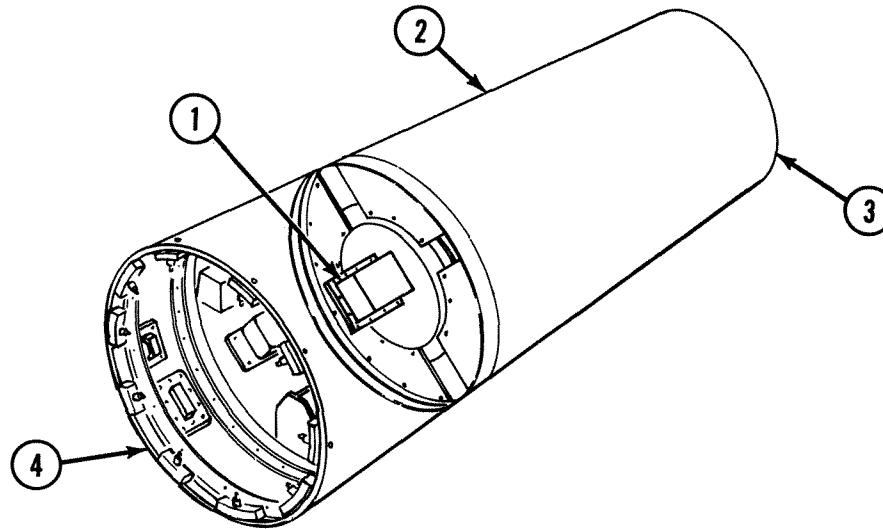

Figure 2-10. WS Major Features
d. WS. Figure 2-10 shows WS major features.